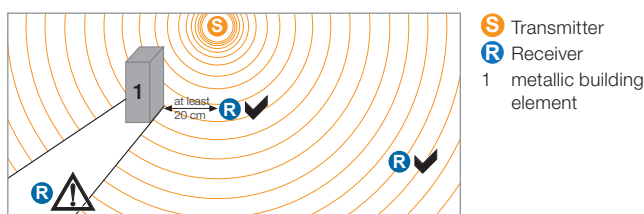

Bild 2: Radio shadow and distances from metallic objects
- Do not position receivers in the radio shadow of metallic building elements if possible, do not install transmitters/receivers behind metallic surfaces or in metallic housings. The areas behind metallic building elements such as piers, ceiling beams and fire doors constitute radio shadows (see Figure 2). Receivers installed in such shadows cannot receive signals over a direct pathway, and have to depend on reflected radio waves.